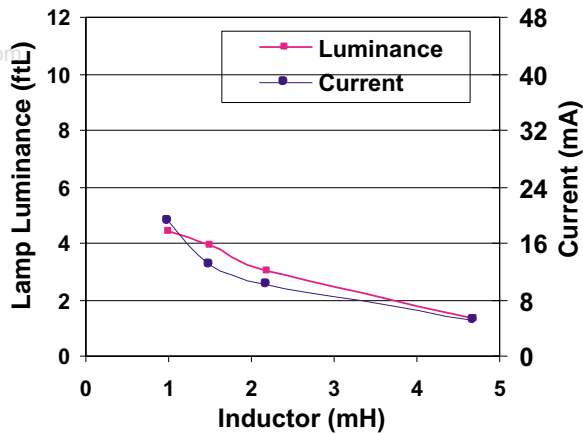

Figure 3: V+=1.5V, 1 in2 EL Lamp
The external inductor (L) selection for a D356A circuit greatly affects the output capability and current draw of the driver. A careful designer will balance current draw considerations with output performance in the choice of an ideal inductor for a particular application. Figures 3, 4, and 5 show typical brightness and current draw of a D356A circuit with different inductor values, lamp sizes, and supply voltages. Please note that the DC resistance (DCR) of inductors with the same nominal inductance value may vary with manufacturer and inductor type. Thus, inductors made by a different manufacturer may yield different outputs, but the trend of the different curves should be similar. Lamp luminance is also a function of lamp size. In each example, a larger lamp will have less luminance with approximately the same current draw.